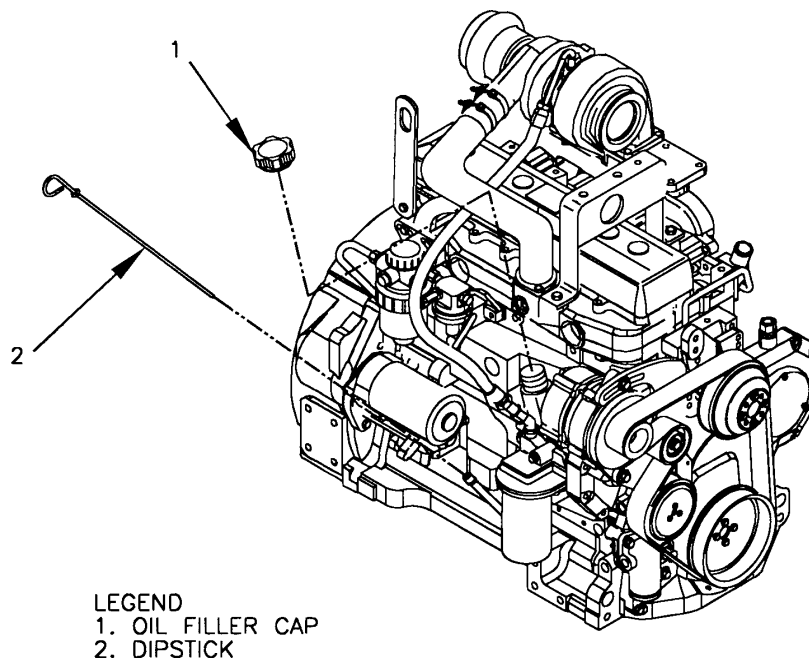

FIGURE 3-6. DIPSTICK AND OIL FILL CAP
- (6) Using ENGINE OFF side of dipstick (2, Figure 3-6), check engine crankcase oil level. Refer to Appendix F.
- (7) Close engine compartment access doors.
- (3) Remove oil filler cap (1, Figure 3-6) from oil filler neck.
- (4) Add oil to engine crankcase. Refer to Appendix F.
- (5) Install oil filler cap (1) on oil filler neck.
- (6) Close engine compartment doors.